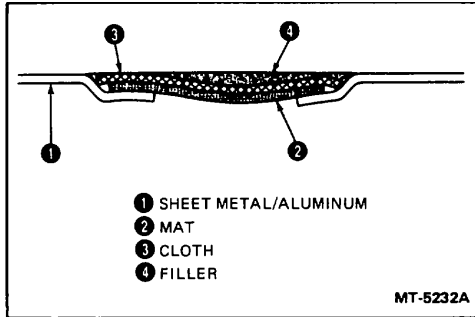

Figure 48. - fiber Glass Mat and Cloth Patch Installation
- Apply the mat and cloth patches, pressing the laminations down tightly with a sheet of polyethylene film to produce a tight bond (Figure 48). (The closest patch is installed last.)